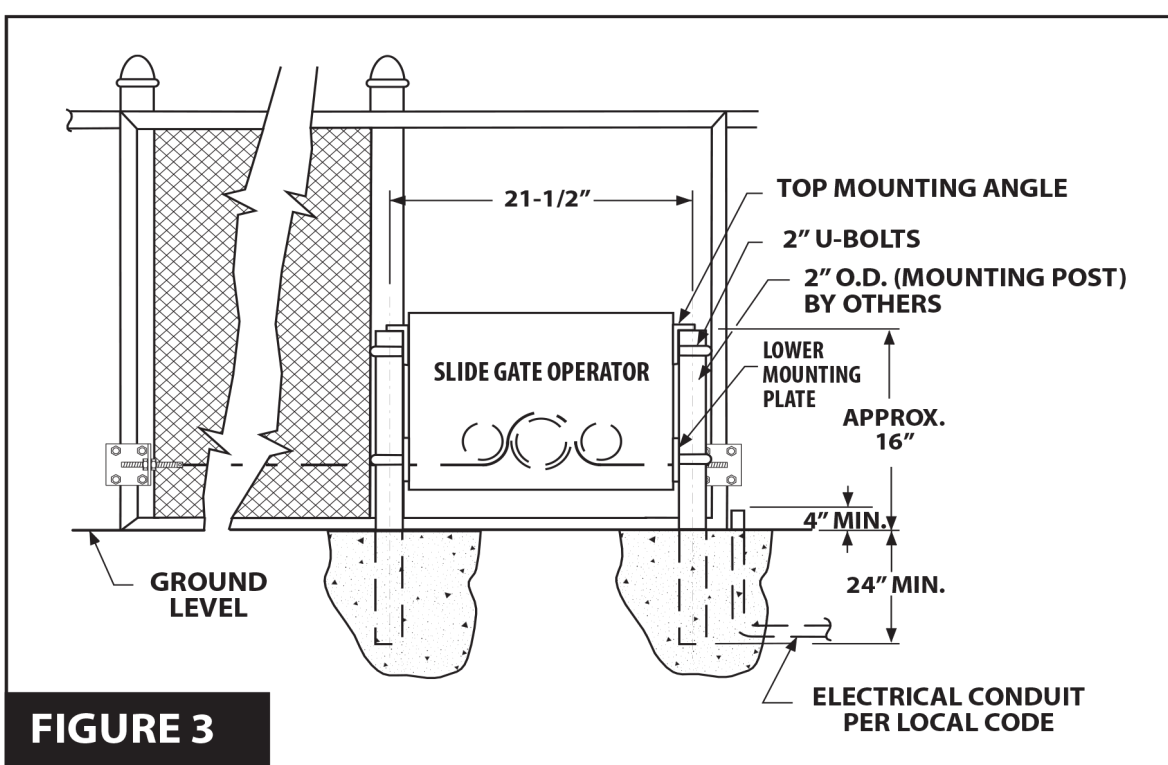

FIGURE 3
3. Mount operator on posts with U-bolts, mounting angles, mounting plates and hardware provided. See **Figure 3**.